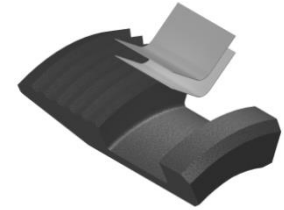
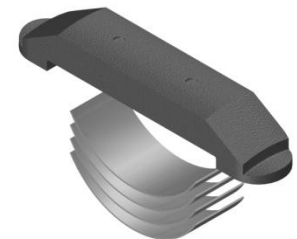

Fig. 4
Fig. 5
- L-2.4) Install bonded seal (24) into center coupling (10).
- L-2.5) Screw center coupling (10) into upper cone (9).
- L-2.6.1) Install rubber retainer (15), elements (13, 14), rubber spacers (12), and gage ring (29) onto rubber mandrel (11).
- L-2.6.2) Install rubber mandrel assembly onto inner mandrel (2) and screw into center coupling (10).
- L-2.7) Screw lower cone (16) into rubber retainer (15).
- L-2.8.1) Install lower slips (17) and lower slip springs (25) into drag block body (18). Wedge slips outward.
**NOTE8:** Install two (2ea) springs per slip (Fig. 4).
- L-2.8.2) Install drag block body assembly onto rubber mandrel (11).
- L-2.9) Screw rubber mandrel cap (19) onto rubber mandrel (11).
**NOTE5:** For added leverage, insert rod through rubber retainer (15) and rubber mandrel (11) as needed.
- L-2.10) Install drag blocks (22) and drag block springs (3) into drag block body (18). Compress blocks with drag block assembly tool (T1).
**NOTE9:** Install four (4ea) springs per drag block (Fig. 5).
- L-2.11) Install drag block retainer (21) onto drag block body (18) to capture ends of drag blocks (22).
- L-2.12) Screw J-body (20) onto drag block body (18) (**NOTE4:** Left-hand threads).
- L-2.13) Screw set screws (30) into J-body (20). Release drag blocks (22).
- L-2.14) Install o-ring (32) into o-ring groove in J-pin bottom sub (23).
- L-2.15) Screw J-pin bottom sub (23) onto inner mandrel (2).